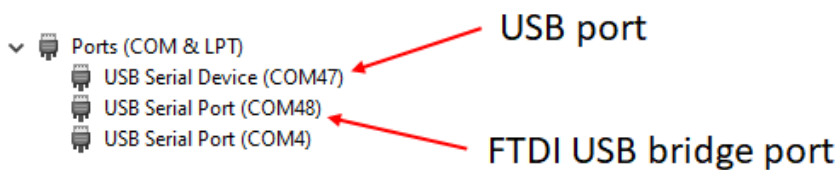

Figure 4: Windows Device Manager Ports identifications
- Start the Device Manager utility from Windows. Two new ports will be visible under the Ports tab: the USB Serial Device is the Native USB port and the USB Serial Port is the FTDI USB bridge port, as shown in Figure 4.